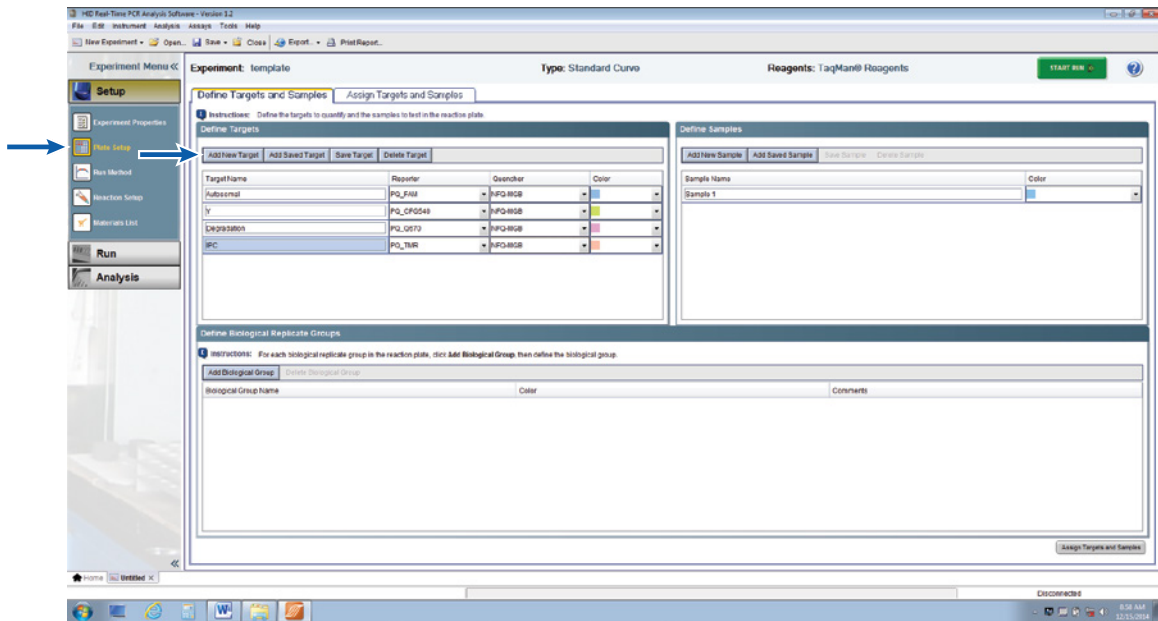

Figure 24. The Plate Setup screen.
8. Select **Plate Setup** from the Setup menu in the left panel. Select the 'Define Targets and Samples' tab. Select **Add New Target** (Figure 24) three additional times, and enter the following information to specify the targets:
5. To add sample names, select **Plate Setup** from the Setup menu in the left panel, and select the 'Define Targets and Samples' tab (Figure 24). Select **Add New Sample**, and enter the sample name in the section provided. Repeat for all samples.